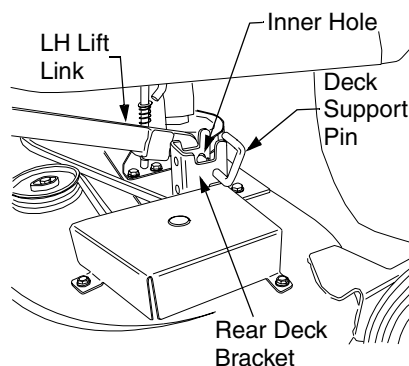

Figure 35
4. Pull outward and cock the deck support pins in the rear deck hanger brackets so that both spring-loaded pins are held in the disengaged position against the inner surface of the deck brackets (See Figure 35).